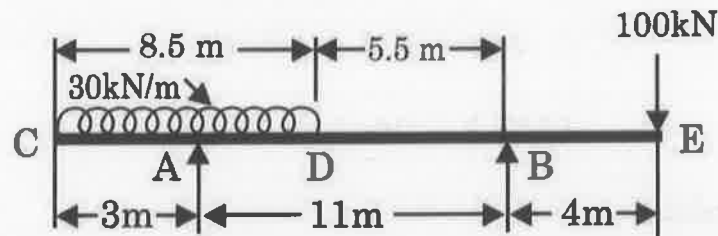

figure 12(a)
12. (a) Draw the bending moment and shear force diagrams for the beam loaded as shown in figure 12(a). Determine the value of maximum bending moment and also locate the point of contra flexure in this loaded beam.